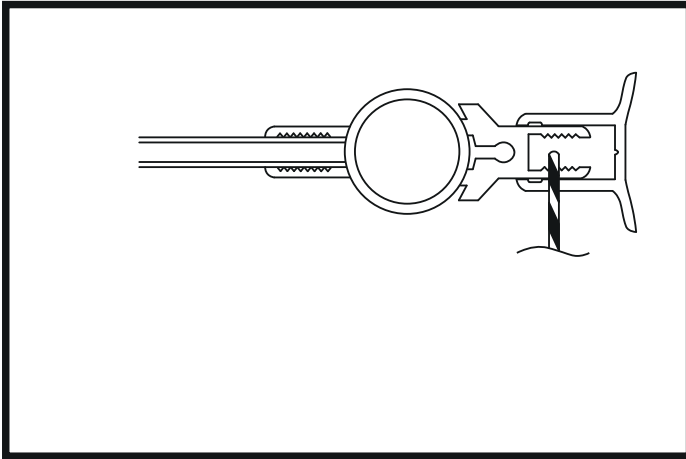

Figure 7
12. Begin by drilling the top hole, going through both the hinge profile and the hinge. Drill the holes carefully so that the drill only passes through one half of the profiles, not the entire product. (Figure 7)